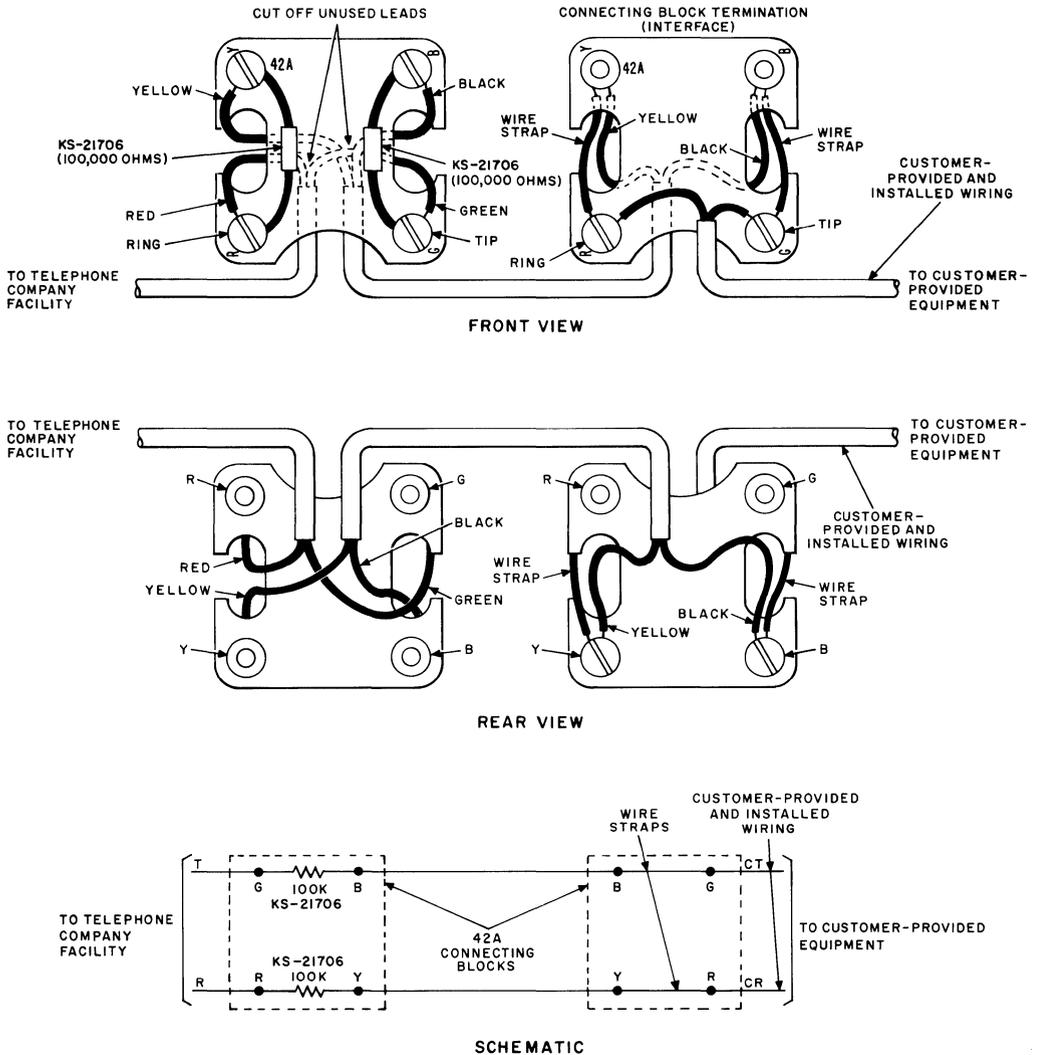
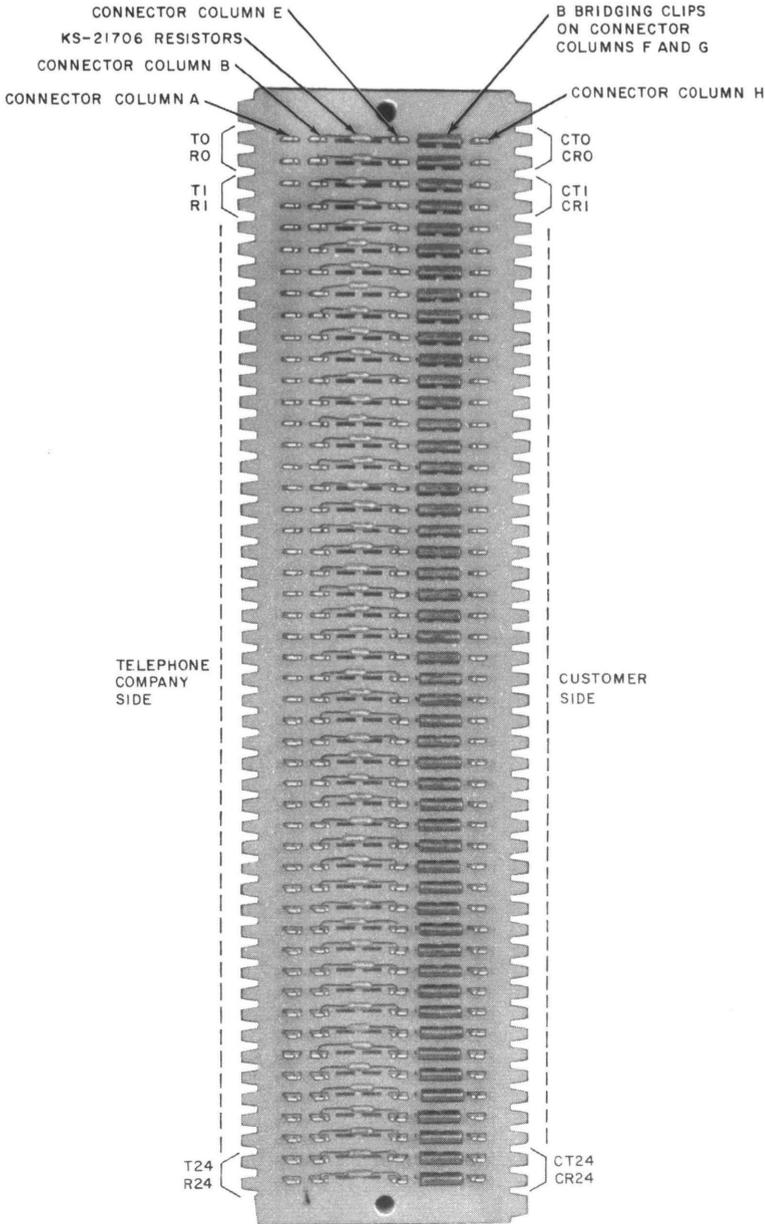

Fig. 2—PCA HZM for Small Installations (Five or Less) Using 42A Connecting Blocks
Fig. 3—125A IU
- To include information on the 125A interconnecting unit (IU) which replaces the J53050H, List 1 IU, now rated MD
1.03 The equipment used to implement HZM is determined by the size of the specific installation. When the installation requires five or less arrangements, 42A connecting blocks may be used to provide the connecting arrangements as shown in Fig. 2; when more than five are required, the 125A IU (Fig. 3) should be used to provide the connecting arrangements. Each IU provides 25 circuits.
- (1) For small installations, nominally five circuits or less (see Fig. 2):
- (2) For large installations, nominally more than five circuits (see Fig. 3 and 4):
3.03 When the 42A blocks are used, connect as shown in Fig. 2. Be sure to observe the proper color codes. One block is used to terminate the T and R leads from the telephone company facilities and to mount the line resistors, while the other block is used to interface with the CP equipment. Note that the screws in terminals Y and B are reversed in the block. Connections from the CP equipment are made directly to screw terminals G and R on the interface block.
3.04 When the 125A IU is used, terminate the leads from the telephone company facilities on the left side of the block (Fig. 3 and 4). Print or stencil the lead designations on each side of the IU. Connections from the CP equipment are made directly to the H column of connectors on the IU.
5.04 Tests—PCA HZM Using 125A IU (Fig. 3 and 4):
5.06 **▶Tests—Locally Constructed PCA HZM Using 42A Connecting Blocks (Fig. 2)**
6.01 For connecting information on PCA HZM using the 42A connecting blocks, refer to Fig. 2.
6.03 For connecting information on PCA HZM using the 125A IU, refer to Fig. 3 and 4.